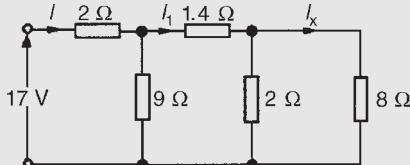
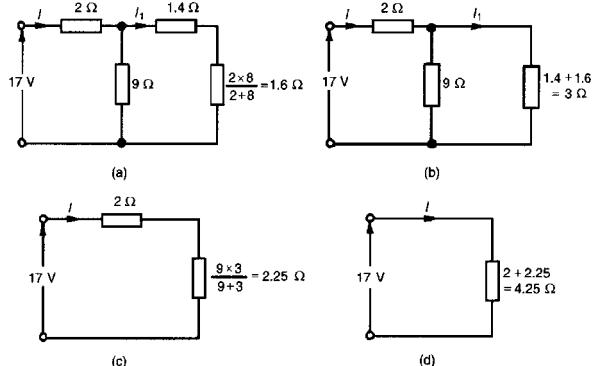

Figure 5.27
Figure 5.28
**Problem 14.** For the arrangement shown in Fig. 5.27, find the current  $I_x$ .
Commencing at the right-hand side of the arrangement shown in Fig. 5.27, the circuit is gradually reduced in stages as shown in Fig. 5.28(a)–(d).
From Fig. 5.28(d),
From Fig. 5.28(b),
From Fig. 5.27